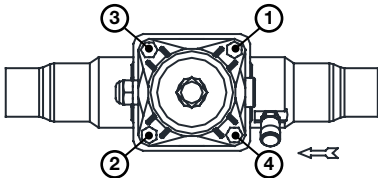

Figure 1: A8A, A81, A8 PORT, A8 SPORT Bodies - Port Sizes $\leq 1\frac{1}{8}$ (11)
2. After bolts have been run down by hand, start wrench tightening following the sequence of the numbers shown in figures 1 thru 3 (marking the number on the valve with a crayon aids in keeping track of the tightening process).